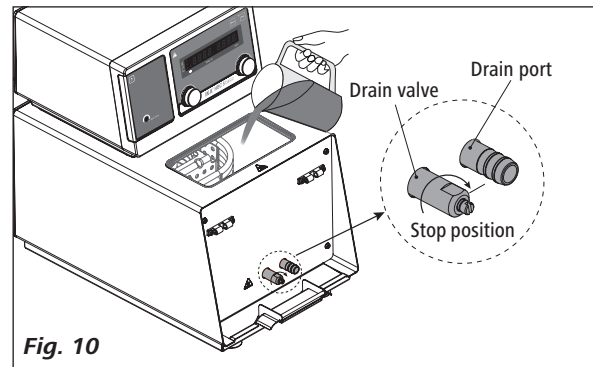

Fig. 10
- Check and make sure that the drain valve is closed (the stop position in clockwise direction, see Fig. 10).
- Connect the mains plug and turn on the device with mains switch (2).
- Open the lid (16) and fill fluid to the bath.